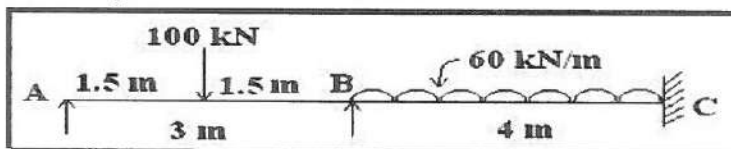

Fig.1
4. Using Clapeyron's method finds the support moments for the two span continuous beam loaded as shown below Fig . 1. Sketch the B.M.D.